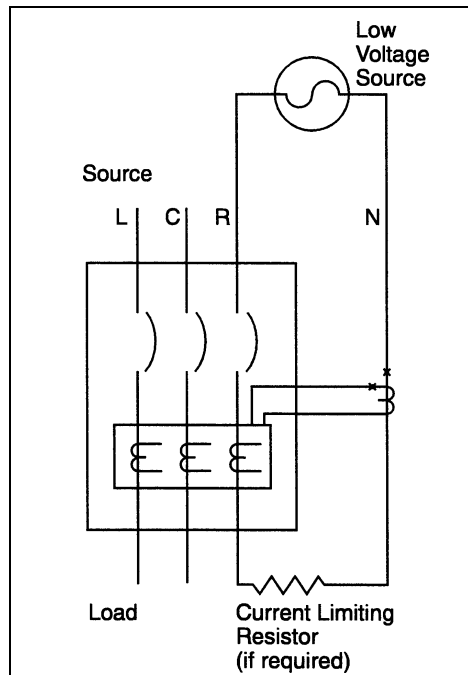

Fig. 7-1b Connection for Ground Fault No-Trip Test, with a Four Wire System
- 7.3.5 If the system is a 4-wire system with a neutral current sensor, apply the same current as described in paragraph 7.3.4 above through one phase of the breaker, returning through the neutral sensor, as shown in Fig. 7-1b. The breaker should not trip, and the alarm indicator, if supplied, should not operate. Repeat the test on the other two phases.